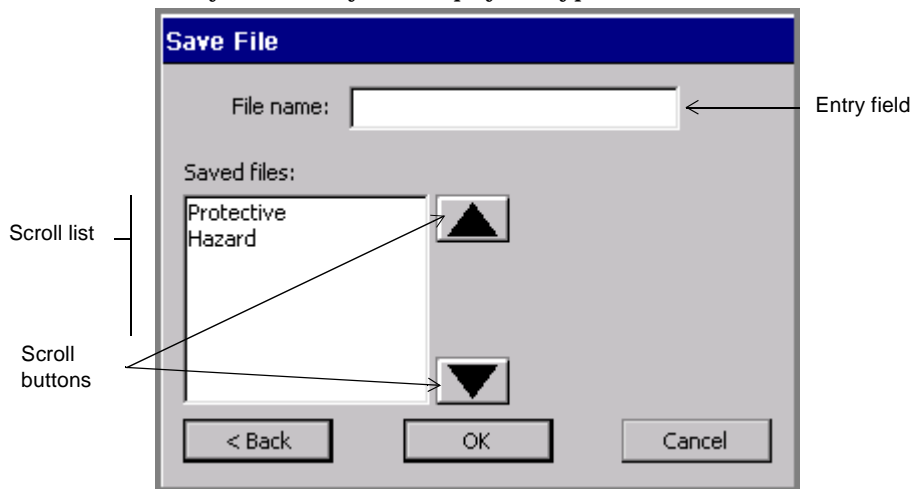
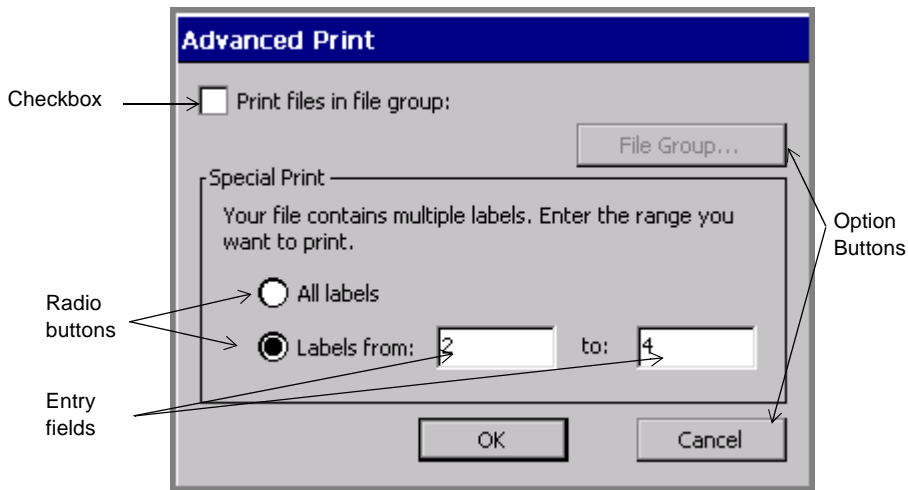
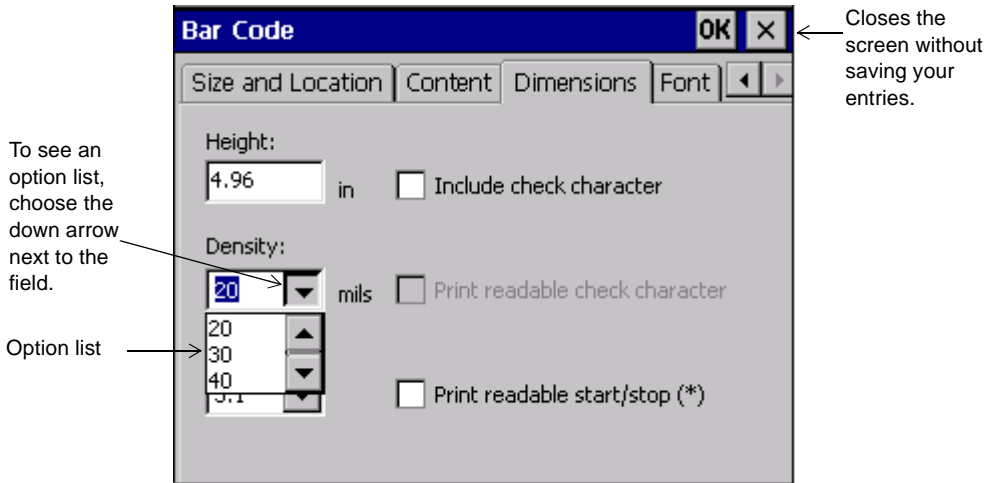

Figure 4-6. The Save File entry screen.
Figure 4-7. The Advanced print entry screen.
Figure 4-8. The Bar Code screen, Dimensions Tab.
Screens usually contain one or more of these information entry devices, as shown in Figure 4-6 on page 4-12 and Figure 4-7 on page 4-13.
An example of another type of entry field is the **Labels from** field in Figure 4-7 on page 4-13. In this field, you enter the beginning and end number for the range of labels you want to print. This type of entry field is activated only when you choose the attached radio
Touch an option button to implement the command or function listed on the button. For instance, in Figure 4-7, the **File Group** button is disabled, but when it is active it takes you to the **File Group** screen, where you choose a File Group to print. The **Cancel** button cancels any entries you made on the **Advanced Print** screen, and returns you to a previous screen.
Figure 4-6 on page 4-12 shows an example of a scroll list. Scroll lists contain lists of items for you to choose from. To make your choice, you can move up and down the list using the scroll buttons, which are also shown in Figure 4-6. When you find the item you want, touch or select it to choose it.
Checkboxes with checkmarks inside indicate that an option is enabled. Empty checkboxes indicate the option is not enabled. Figure 4-7 shows an example of a checkbox.
For example, in Figure 4-7, check the **Print Files in Group** option checkbox to indicate that you want to print a group of files all at once. Leaving it unchecked indicates that you accept the default status, which is printing a single file.
**Radio buttons** are empty circles when not in use, and circles with dots inside when activated. Figure 4-7 shows examples of radio buttons.
- The **OK** button may be at the top right of the entry screen, as shown in Figure 4-8, or it may be a full-sized button near the bottom of the screen, as shown in Figure 4-7.
- Press or choose the **X** button, as shown in Figure 4-8.
- Press or choose **Cancel**, as shown in Figure 4-7.